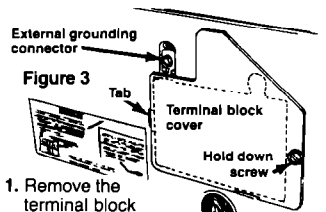

Figure 3
- Remove the terminal block cover by removing the screw shown in Figure 3.
- Replace the terminal block cover by first installing the tab of the cover into the slot of the dryer rear panel (see Figure 3). Secure the cover with the mounting screw.
1. Remove the terminal block cover by removing the screw shown in Figure 3.
6. Replace the terminal block cover by first installing the tab of the cover into the slot of the dryer rear panel. See Figure 3. Secure the cover with the mounting screw.